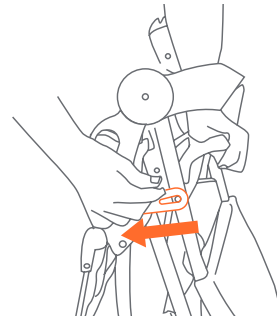

Fig. 23a
23) • Stand the stroller on the ground with all three wheels touching the ground. Release the folding latch, which is located on the right side (Fig. 23a).